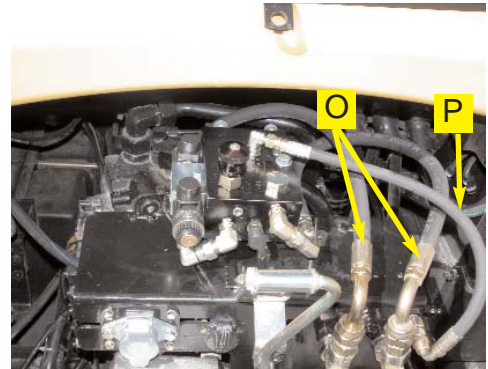

Figure 4b. Pressure, tank, and load sense hoses installed.
- b. Connect the pressure and tank hoses (**O**) between the pressure and tank ports on the tractor and the respective **P** and **T** ports on the Automated Steering Block. The pressure port should be connected to the **P** port and the tank port should be connected to the **T** port. (Figure 4b and 4c.)
- c. Connect the load sense hose (**P**) between the **LS** port of the Automated Steering Block and the load sense port on the tractor. (Figure 4b and 4c.)